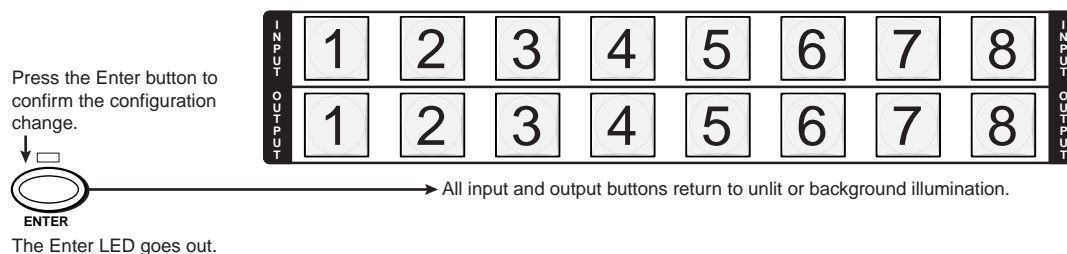

Figure 3-12 — Press the Enter button
- Press and release the Enter button (figure 3-12).